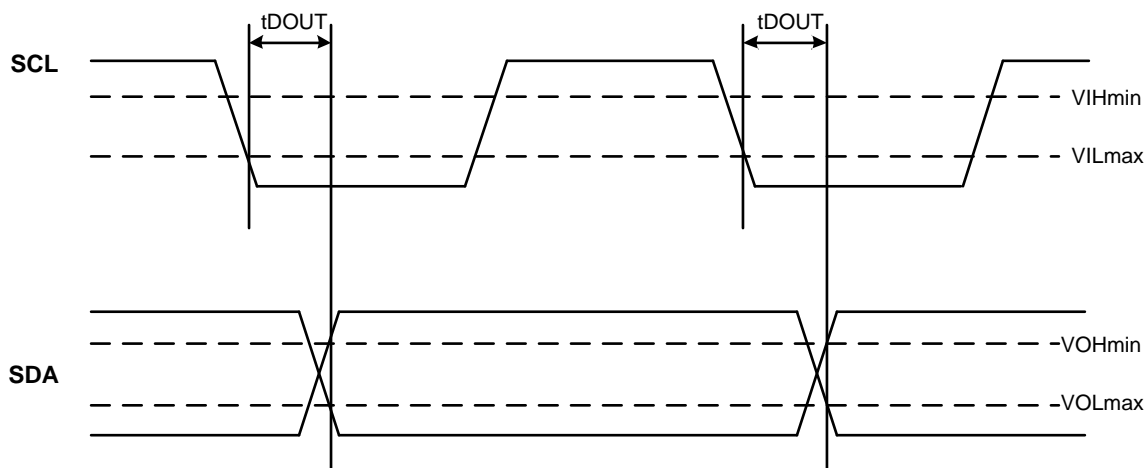

Figure 3 I³C Basic Bus AC Data Output Timing Parameter Definition
5. See Figure 3 I3C Basic Bus AC Data Output Timing Parameter Definition